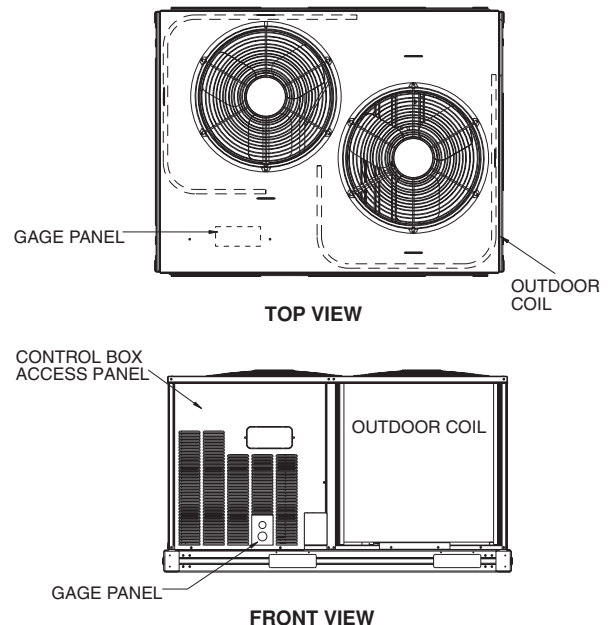

Fig. 7 — Gage Panels in 38ARD012, 38ARQ008-012, 38ARS012, and 38ARZ007-012
38ARD012, 38ARQ008-012, 38ARS012, 38ARZ007-012 (see Fig. 7)
2. Hold the gage panel(s) against the basepan as shown in Fig. 7. Mark screw hole locations.